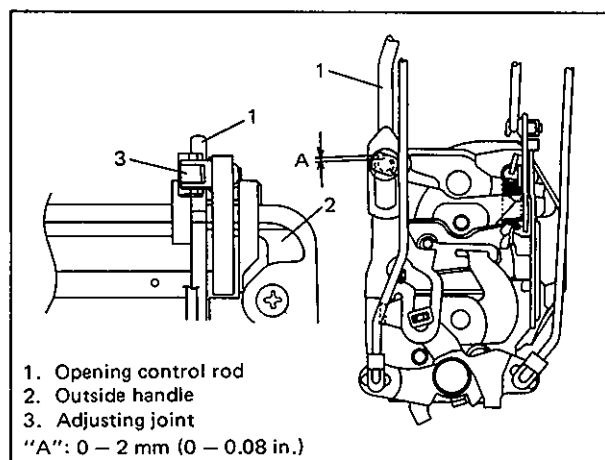

Fig. 9-20
1. When installing opening control rod (1 in Fig. 9-20) to outside handle (2), turn adjusting joint (3) to adjust distance "A" to 0 to 2 mm (0 to 0.08 in.) as shown.